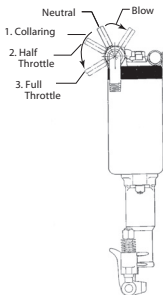

Figure 1. (Dwg. 16578304)
- The jackhammer is controlled by moving the lever as shown in Figure 1.